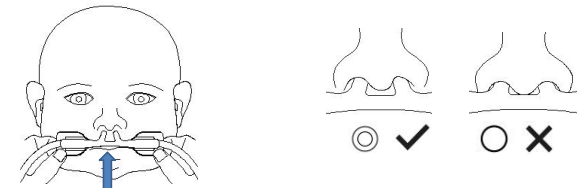

Fig. 7-2
(2) Align the nasal cannula with the release paper to the nostril and insert it into the nostril, as shown in Fig. 7-2.
- The diameter of the rhinobyon must be smaller than the diameter of the nostril to ensure that there is a certain gap between them. The main body of the rhinobyon must have a certain gap with the nasal septum, as shown by ✓ in Fig. 7-2.